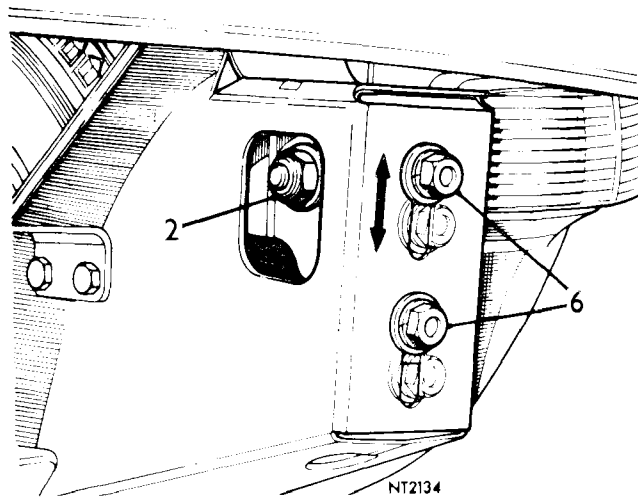

Fig. 83 Bonnet fixing and adjustment points
4. Remove two bolts and washers securing the bonnet (item 2 Fig. 83) and lift off the bonnet.
2. Slacken the two bolts (Fig. 83) and move the bonnet forwards or rearwards to achieve a parallel gap of $\frac{3}{16}$ " (5mm) between the bonnet scuttle and doors.
6. Slacken the four bolts (Fig. 83) and raise or lower the bonnet, as required.